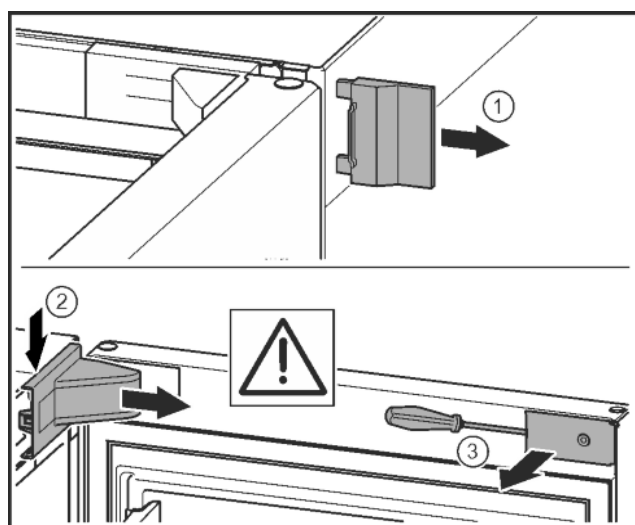

Fig. 11*
- Remove the outer cover.* Fig. 11 (1)
- Disengage and release the bearing bracket cover. Remove the bearing bracket cover.* Fig. 11 (2)
- Unlatch the panel with a slotted screwdriver and swivel it to one side.* Fig. 11 (3)